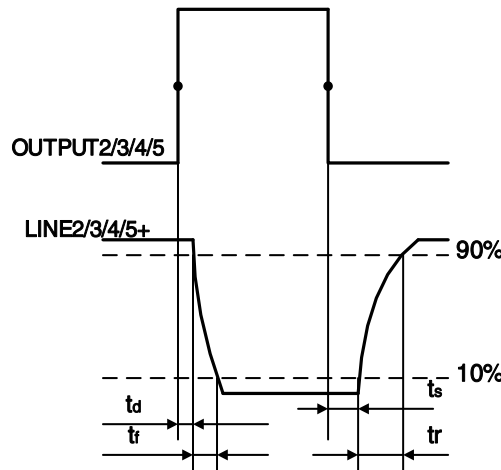

Figure 6-25 Parameter of opto-isolated output circuit
- Rising time delay = $t_d + t_f$: $<50\mu s$ ($0^\circ C \sim 45^\circ C$) (parameter description is shown in Figure 6-25)
- Falling time delay = $t_s + t_r$: $<50\mu s$ ($0^\circ C \sim 45^\circ C$) (parameter description is shown in Figure 6-25)